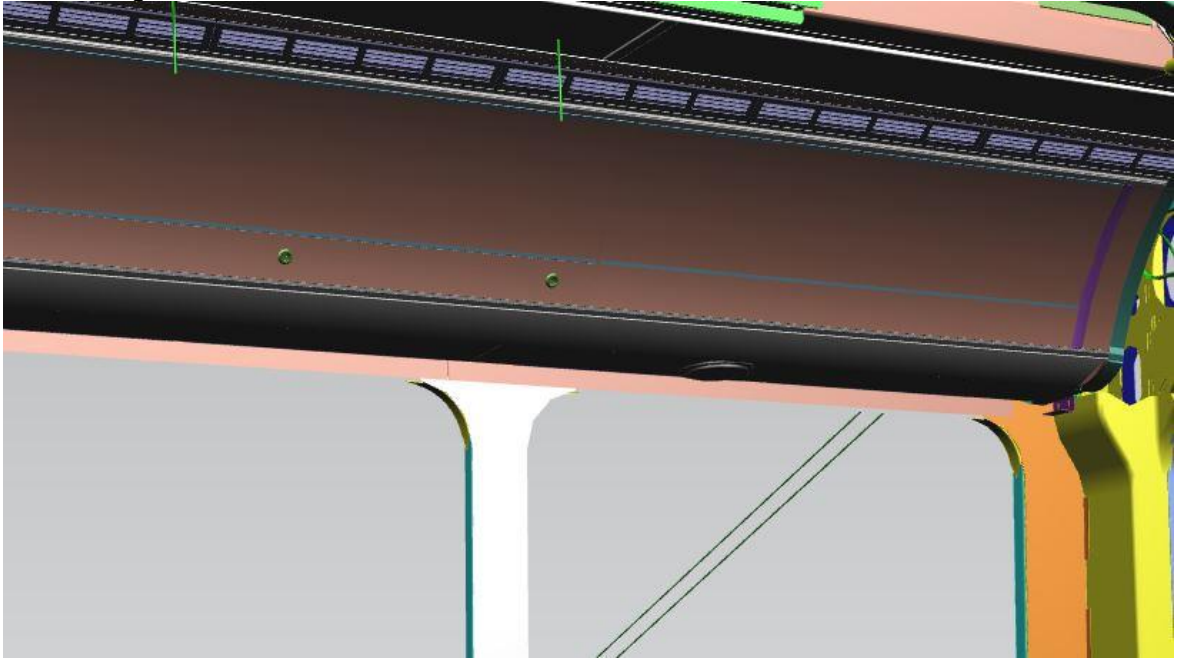

FIGURE 1: REMOVE LIGHT PANEL & COVERS TO GAIN ACCESS TO FIRE SUPPRESSION BOTTLE
3. Remove the streetside light panels from the joint to one past the fire suppression bottle. Set aside to re-install later. Refer to Figure 1.